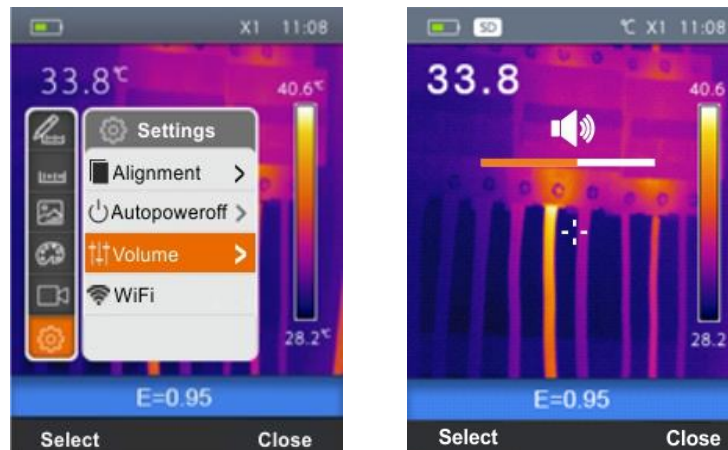

Fig. 15: Volume level setting
1. Select the item “Volume” using the keys  or  and press the key . The screen Fig. 15 – Right side is shown on the display